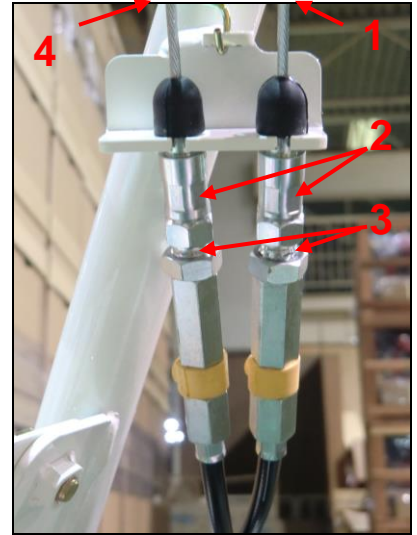

Figure 12
- If the machine can move when operator release hand from travel lever, adjust the parking brake wire(1, figure 12) as follows : unscrew locking nut 2 and screw nut 3 to increase tension. Lock again the lever and try to move the machine. If the machine is braked enough, screw the locking nut. If the machine move, screw the nut 3 again. If the adjustment is not efficient, contact your dealer in order to check and replace brake pads if it is necessary.
- If the machine does not move or if the transmission belt slips when transmission lever is pressed, adjust the driving clutch wire(4, figure 12) as follow : unscrew the locking nut 2 and after screw up the adjust nut(3, figure 12) against the lock nut. Try to move the machine again. Perform the adjustment again if needed.